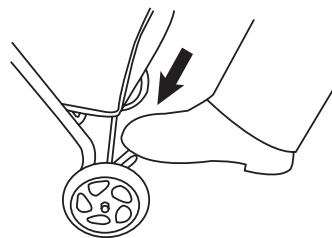
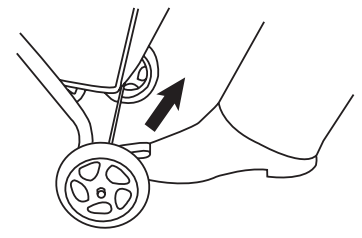

Fig. 10a
Fig. 10b
10. To engage brakes, apply light downward pressure to the brake lever located on each rear wheel. See Figure 10a. The stroller may require slight forward or rearward movement in order to line up the teeth on the brake with each wheel brake cluster. Check that the stroller will not move and that the brakes are properly applied. To release, gently lift up on the brake lever. See Figure 10b.